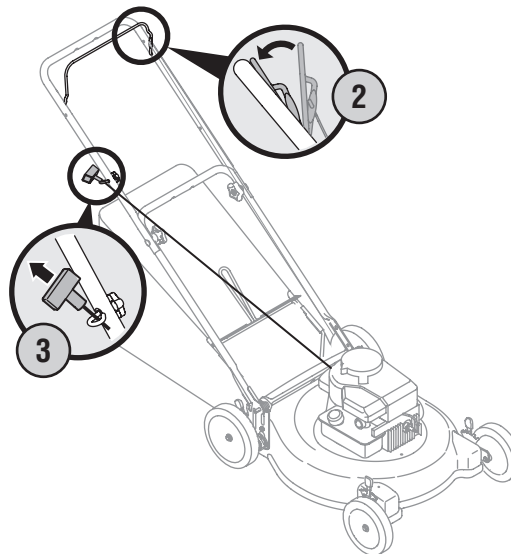

Figure 4-3
2. Standing behind the unit, depress the blade control handle and hold it against the upper handle as shown in Figure 4-3.